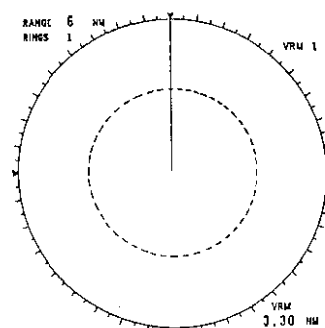

Fig.1-11
2. While observing the VRM indicator at the lower right-hand side of the screen, press / until the VRM stops at 3.30nm. (The order which you set the inner and outer range limits is interchangeable.) See Fig.1-11.